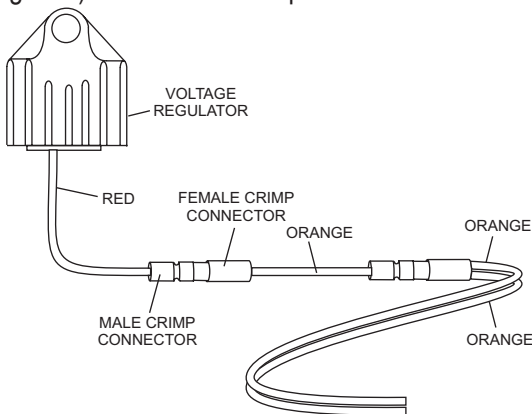

Figure 6. Regulator Red Wire Connection
- Connect the other end of the ORANGE wire (female crimp) onto the RED wire on to the voltage regulator (Figure 6) with the male crimp connector